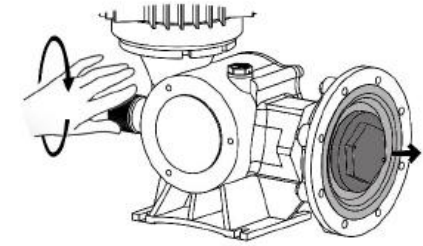

Figure 8
- ◆ Removing the pump head, save the pump head screws and nuts, turn the stroke adjusting rod to the 0 % position. At this time, the diaphragm assembly will be jacked up and separated from the over section. (See figure 8)